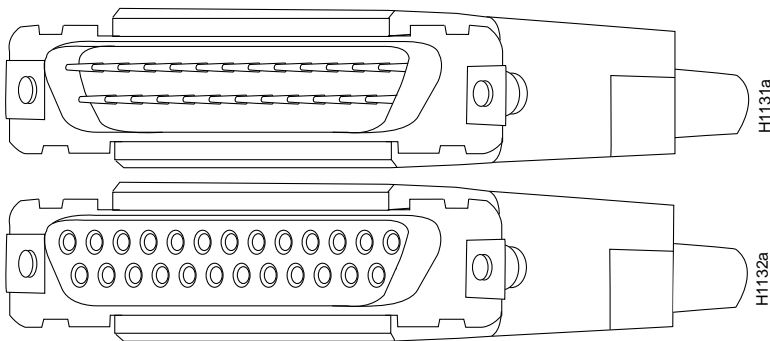

Figure 3-6 RS-232 DCE and DTE Connectors
- RS-232 DCE and DTE connectors, Figure 3-6
The RS-232 male (DCE) connector is used for the console port, while the female (DTE) connector of the RS-232 cable is used for the auxiliary port (if installed) on the chassis. (See Figure 3-6.)